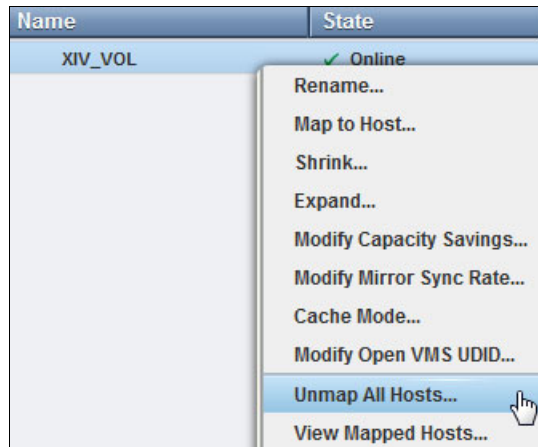

Figure 5-20 Unmap All Hosts selected
1. To unmap the volume, right-click the volume and select **Unmap All Hosts**, as shown in Figure 5-20.